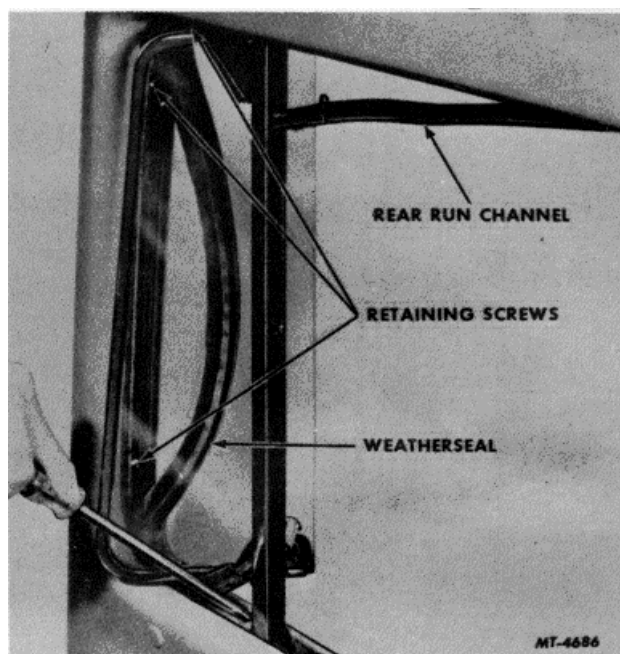

Fig. 17
1. Pull out door vent glass window weatherseal far enough to expose vent window frame to cab door retaining screws, Fig. 17.
2. Remove four door vent window retaining screws, Fig. 17.